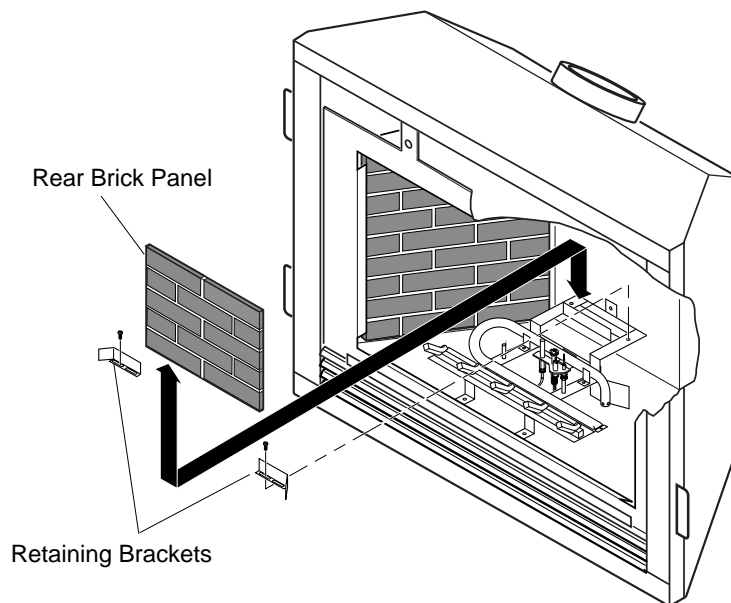

Figure 49 - Installing Rear Brick Panel and Retainer Brackets
7. Install rear brick panel. Rest bottom edge of panel on back edge of grate (see Figure 49).